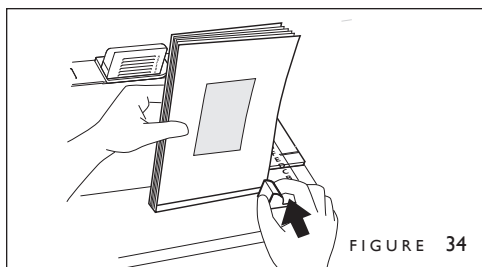

FIGURE 34
1. Measure the bound book block with the Book Width Gauge on the lower right side of the Hardcover Guide to determine the proper cover width (Figure 34).